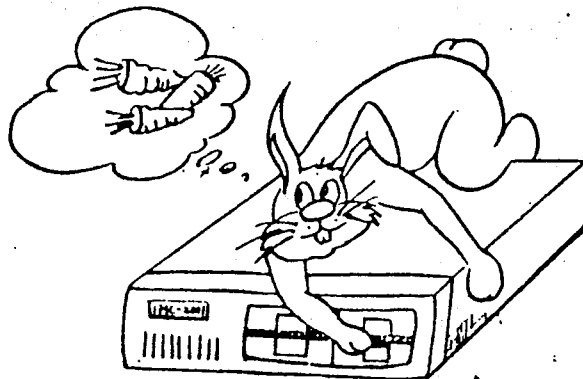

Figure 1-1
The system unit, show in Figure 1-1, is the heart of the IMC. Inside the system unit, is a printed circuit board called the SYSTEM BOARD, which contains the basic circuitry of the IMC. The system board also has seven(7) connectors called the SYSTEM EXPANSION SLOTS, shown in Figure 1-2. Several manufacturers, including INTER-ORIENT & WORLD CORP, offer cards or boards that can be plugged into the system expansion slots which will expand the functions of the IMC. As we will see, these optional expansion card may allow you to tailor the IMC to your own specific requirements.